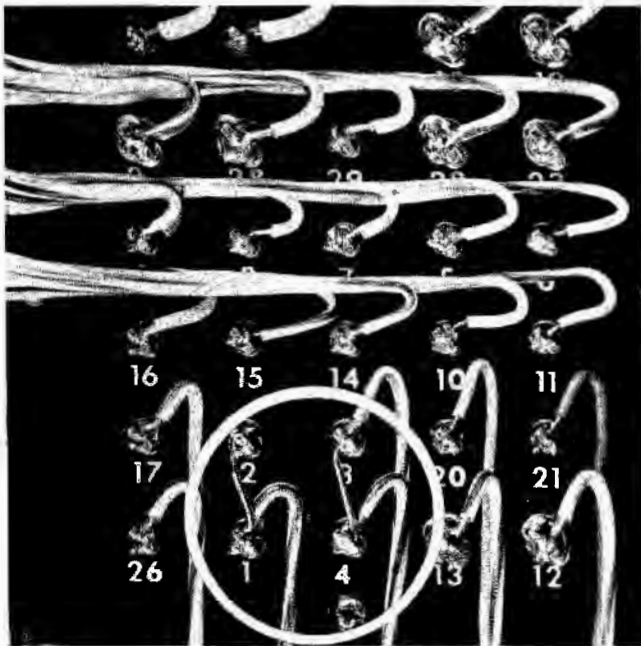

Fig. 3-1. Transformer connections for 117-volt operation.
2. Operate the oscilloscope from a power-line voltage as nearly as possible in the middle of the range for which the transformer is connected. The power-line voltage and operating range is indicated on a metal tag at the rear of the instrument. If you want to operate your oscilloscope using an input voltage other than indicated, use the information given in Figures 3-1, 3-2 and 3-3.